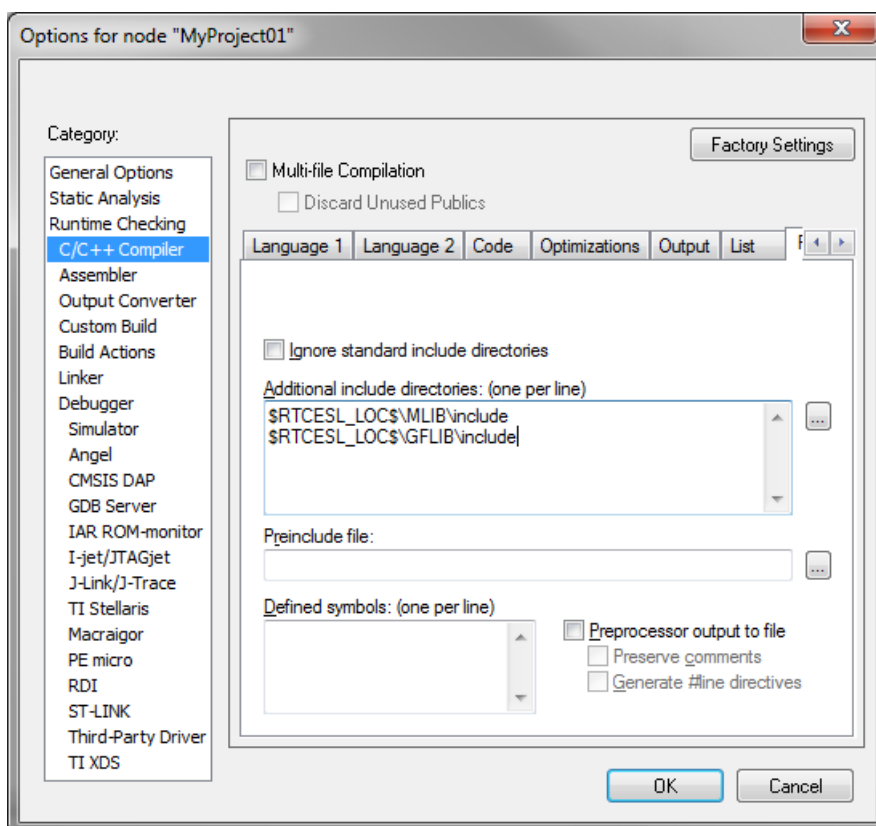

Figure 1-34. Library path addition
5. Click OK in the main dialog. See Figure 1-34.